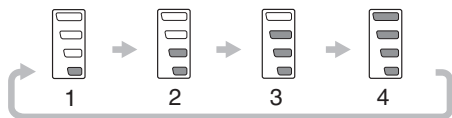

Fig. 16
- (1) High / Low mode selector switch (Fig. 16)